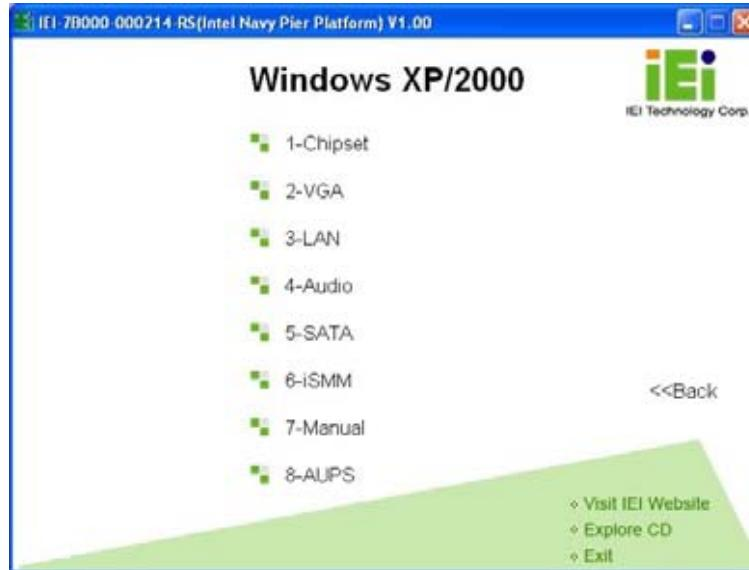

Figure 7-3: Drivers
Step 6: The list of drivers in **Figure 7-3** appears.
Step 7: Access the driver list shown in **Figure 7-3**. (See **Section 7.2**)
Step 20: Access the driver list shown in **Figure 7-3**. (See **Section 7.2**)
Step 36: Access the driver list shown in **Figure 7-3**. (See **Section 7.2**)
Step 46: Access the driver list shown in **Figure 7-3**. (See **Section 7.2**)